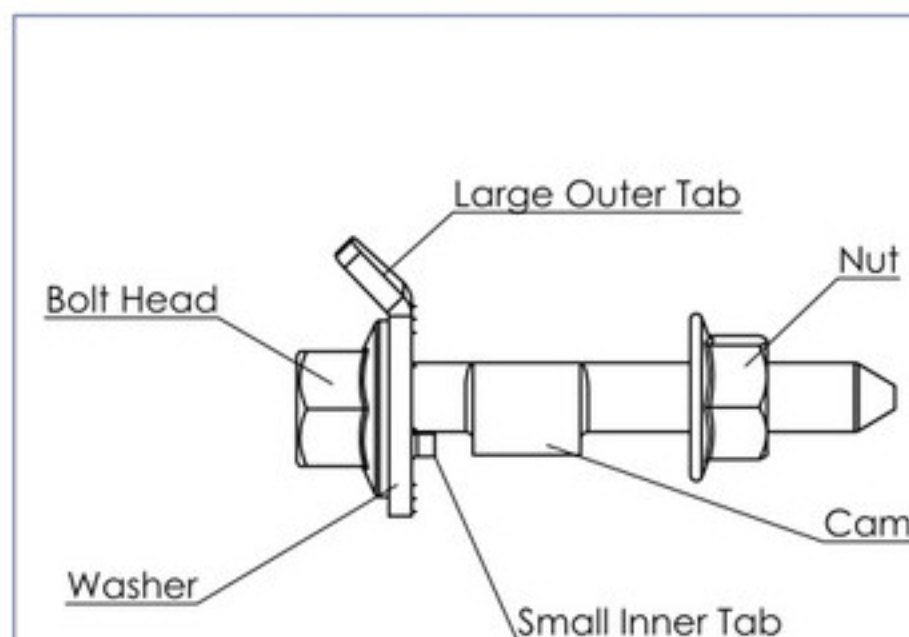

Fig 1
- 4) Align bolt cam with small inner tabbed washer. (Fig 1)